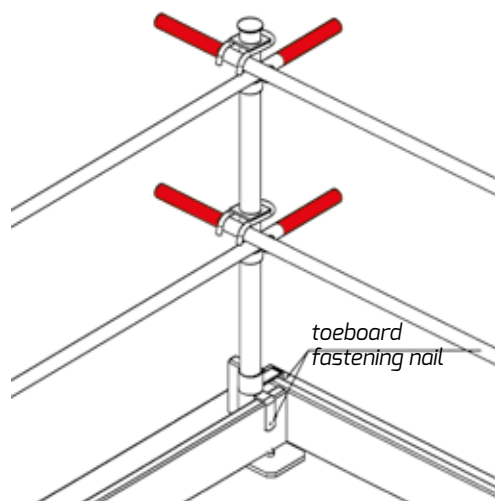

fig. 7 – Installation of the toeboard and railing in the corners
- The railing pipes should protrude beyond the supporting points (posts) by at least **200 mm**. Typical railing pipes are marked red over **200 mm** at both ends. This is the marking of the zone that protrudes beyond the posts (fig. 7 and 8).